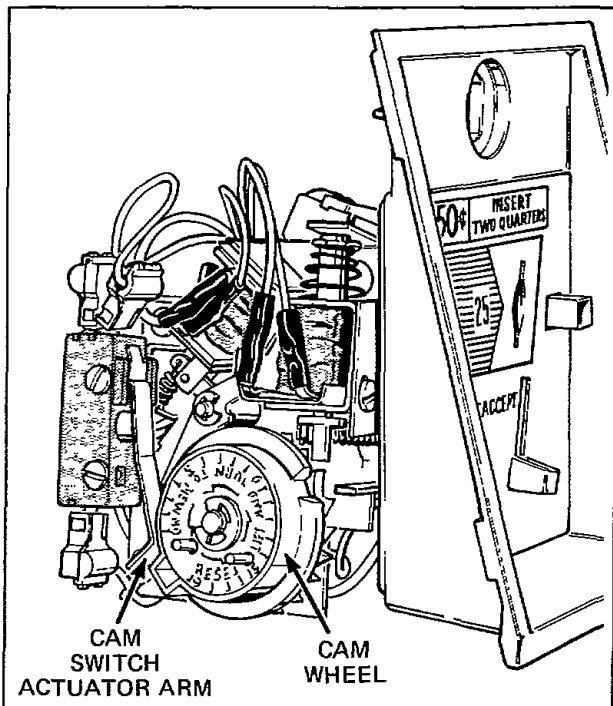

Figure 48
**45. ACCUMULATOR COIN DROP (Refer to Figure 48)**